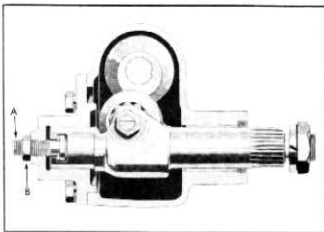
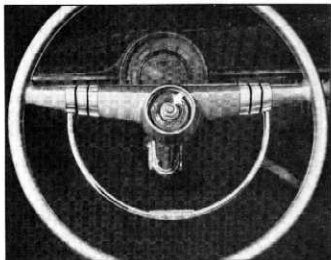

Fig. 3—Sector Adjustment Points
Fig. 6—Steering Gear Highpoint Mark
3. Loosen the lock nut "B" (fig. 3) and turn the lash adjuster "A" a few turns in a counter-clockwise direction. This removes from the worm bearings the load imposed by close meshing of worm and sector teeth. Turn steering wheel gently in one direction until stopped by gear, then back away about one turn.
- After proper adjustment of worm is obtained, and all mounting bolts tightened to 27-40 ft. lbs. torque, adjust lash adjuster "A" (fig. 3). First turn the steering wheel gently from one stop all the way to the other, carefully counting the total number of turns. Then turn wheel back exactly halfway, to center position. Remove the steering wheel ornamental cap or horn button and note position
of mark on end of worm shaft. This mark (fig. 6) should be at the top of the shaft. Mark wheel at top or bottom center with a piece of tape. Turn lash adjuster "A" (fig. 3) clockwise to take out all lash in gear teeth, and tighten lock nut "B" to 10-15 ft. lbs. torque. Turn steering wheel off the high spot, then check pull at wheel rim with checking scale as before, taking the highest reading of checking scale as the wheel is turned through center position. This should be between $\frac{3}{4}$ and $1\frac{1}{8}$ pounds. If the reading is not within the above limits, turn the wheel a half turn off the high spot and either tighten or loosen the adjuster as necessary. Then recheck the adjustment by again pulling through the high spot with the checking scale.
NOTE: Steering gear high point is designated by a mark on end of worm shaft. This mark should be at the top of the shaft (fig. 6).
- Loosen the lock nut "B" on the end of the sector shaft (fig. 3), then turn the lash adjuster "A" a few turns counterclockwise. This will remove the load from the bearings caused by the close meshing of the worm and sector teeth.